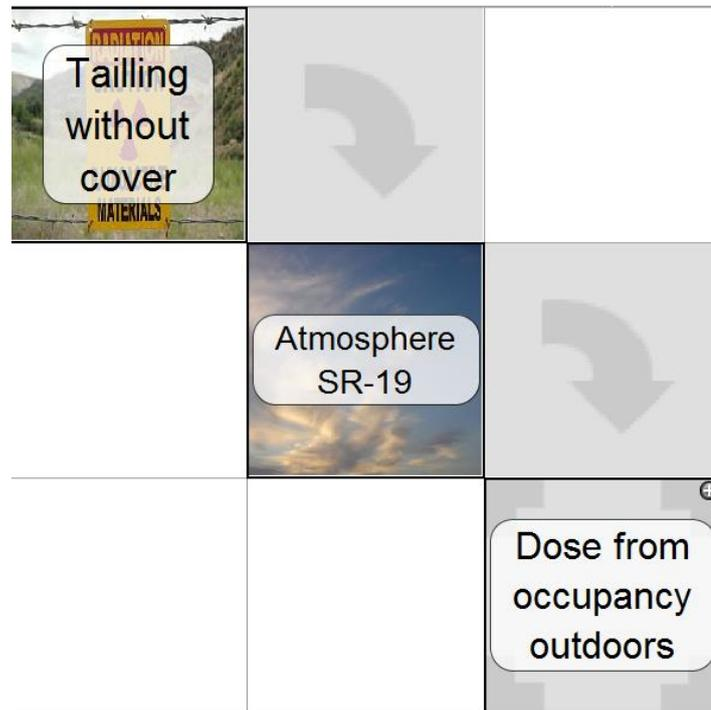

FIG 9. Full model for Exercise 3 including main modules and “connectors” in ‘Matrix’ view.
2. Repeat the process of connecting modules until your model will look as in FIG 9.